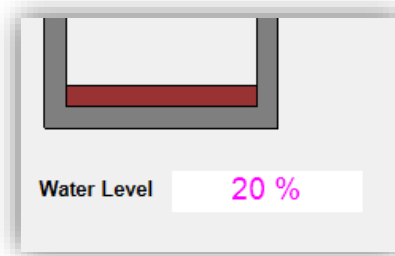

Figure 49. Change colour of water when it reaches 20% empty.
- Change colour of the water when water reaches < 20% (Figure 49).